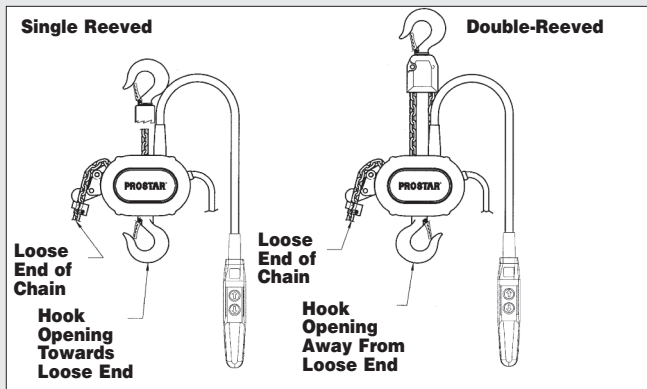

Figure 13A
10. Properly install the upper hook as shown in Figure 13A, then slide the hook retainer (620-139) into the cavity on top of the hoist and secure it using hook retainer screw (620-140). Tighten screw to a seating torque of 10 in. lbs. (1.1 NM).
## Upper Hook (see figure 13A & 13B for installation instructions)